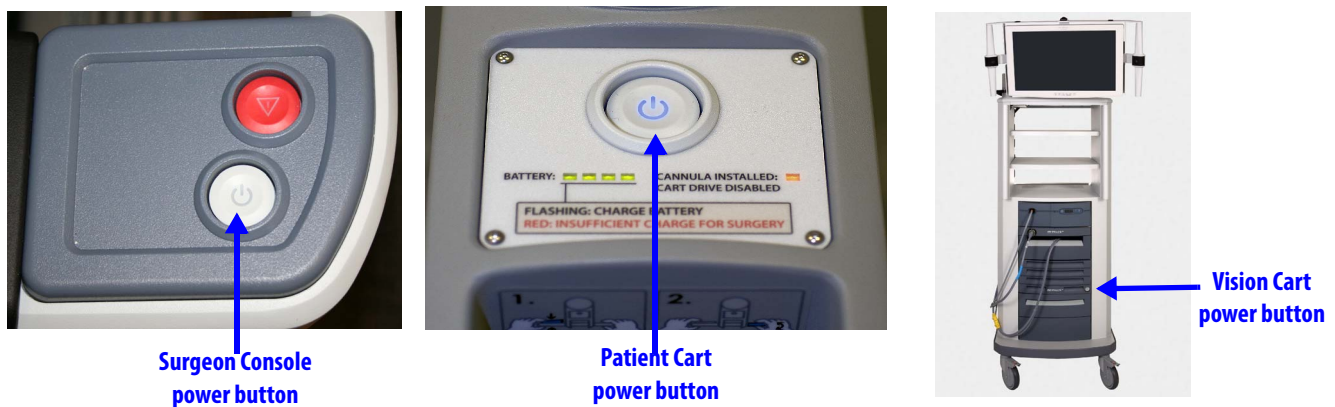

Figure 5.1 System power buttons
1. To power on the Surgeon Console or Vision Cart in stand-alone mode, make sure the power cord is plugged in, and press the **Power** button (Figure 5.1).
2. To power on the Patient Cart in stand-alone mode, press the **Power** button on the Patient Cart (Figure 5.1). The Patient Cart does not need to be plugged in for stand-alone mode.